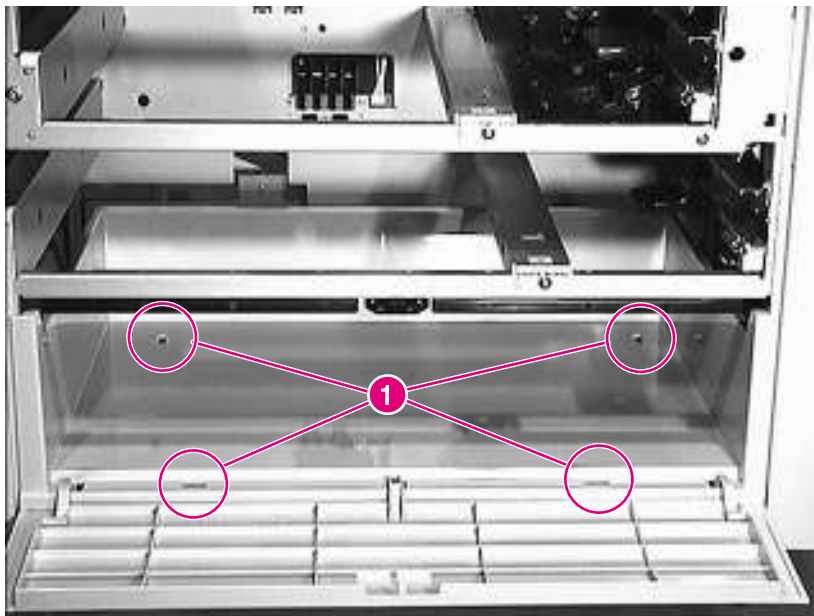

Figure 6-108 Storage Paper Tray
- 3 Use a flat-blade screwdriver to release the tabs inside the holes indicated in figure 6-108 (callout 1).